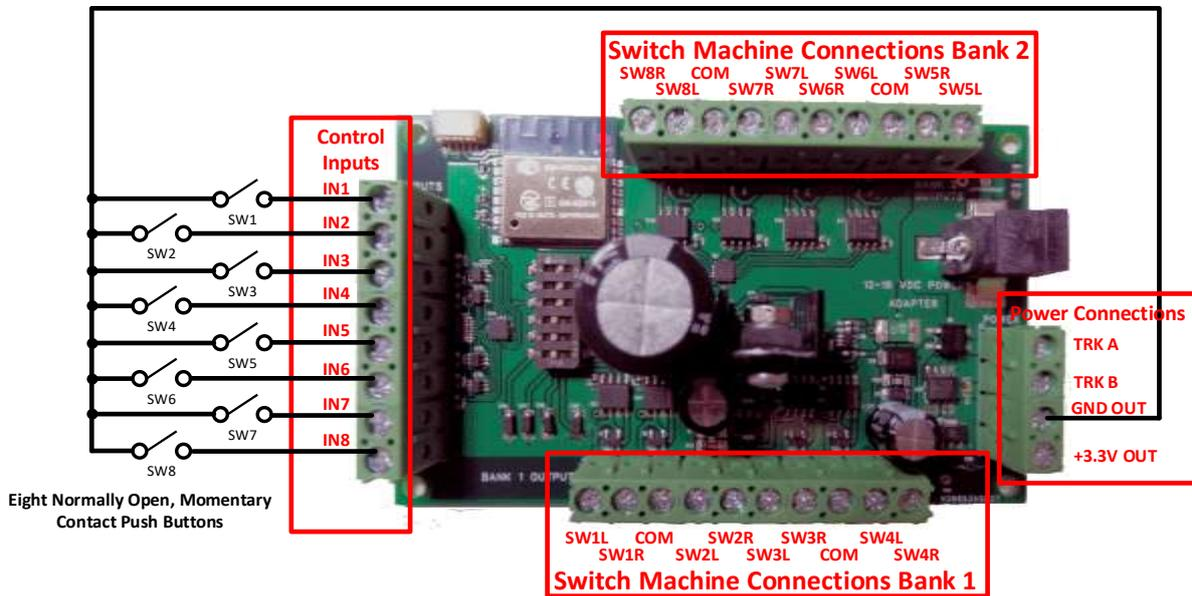

Figure 5. Connection Diagram for Manual Push Buttons
- (6) Optionally, install eight normally open, momentary contact push buttons as shown in Figure 5.